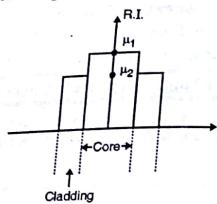

Fig. 5.5.1(a) : Refractive index profile
- Refractive index profile is given as shown in Fig. 5.5.1(a).